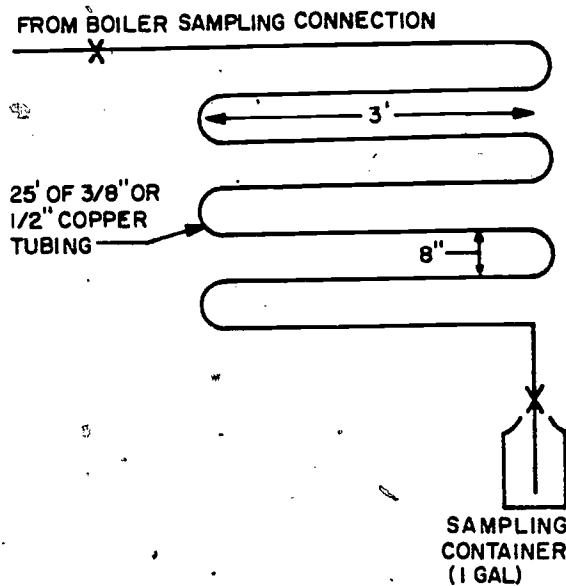

Figure 29. An air-cooled sampling coil.
11. *Atmospherically cooled coil.* About 25 feet of 3/8- or 1/2-inch copper tubing that has been bent into the shape of a large helix and suspended in air (fig. 29) works well as an air-cooled sampling coil when the sample is not drawn too rapidly.